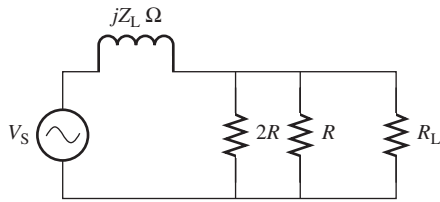

FIGURE P6.53 Circuit for Problems 6.53 and 6.54.
6.53 (B)* Express the Thévenin/Norton equivalent resistance, R_L , in terms of the resistance, R , and impedance of inductor Z_L for the circuit in Figure P6.53.
- 6.54** (H) In Figure P6.53, the voltage source is $V_{th} = 50\angle 0^\circ$ the Thévenin voltage and Norton current are $V_{th} = 20\angle -60^\circ$ and $I_{th} = 2\angle -90^\circ$. Determine the value of R and Z_L .